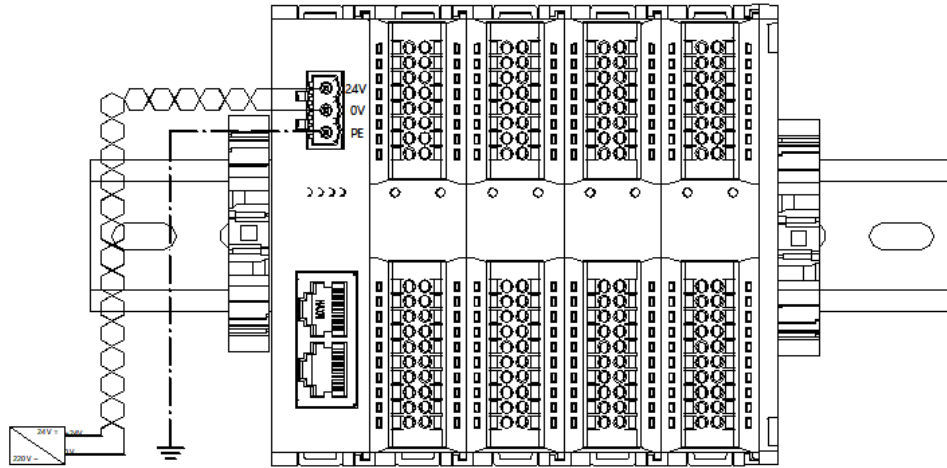

Figure 6-1
- Figure 6-1: Wiring diagram of coupler, IO modules, and power module in sequence